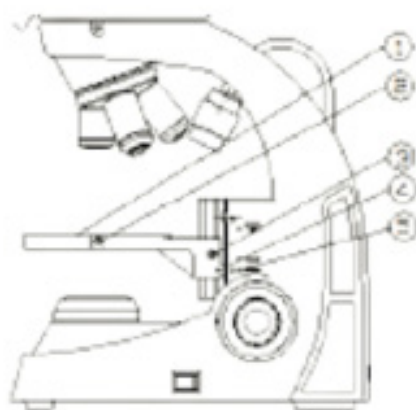

Fig. 24
Put the plate (1) into the holder and use a hexagonal wrench to lock the screw (2). Adjust coarse focusing wheel to lift the holder to the top position, loose the screw (3) to move the holder, and then lock when marks (4) and (5) are horizontally aligned. (See Fig.24)